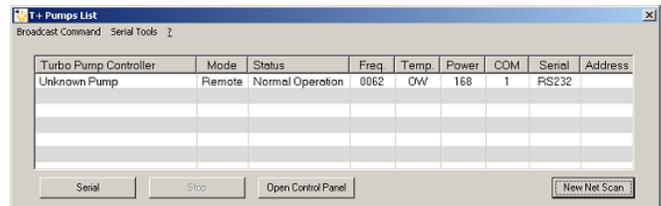

Figure 5 T+ Pumps List
2. Using a 9-pin serial cable, connect your PC to the J2 serial port on the inverter (Figure 5).
4. Start the T-Plus software and Figure 5 appears.